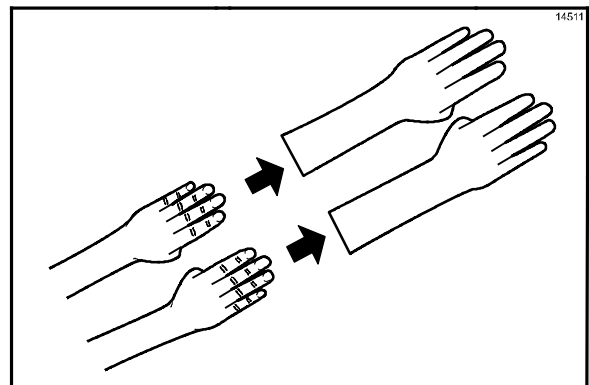

Figure 15
7. Put on heat-resistant gloves. (See Figure 15.)